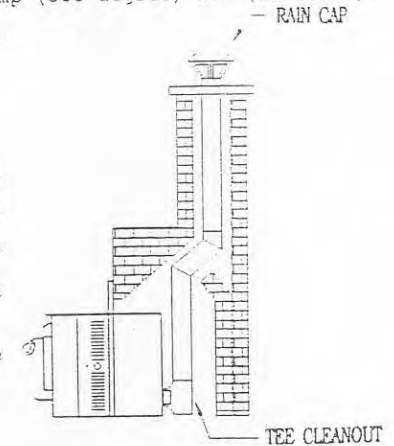

FIGURE 25-A
3. Joints need to be joined tightly with at least (3) sheet metal screws and sealed with high temp (500 degree) RTV (silicone).
5. One method of installation requires that new vent pipe should extend above the top of the old chimney (consult local ordinances for distance) and should be fitted with a raincap to prevent moisture from getting back into the system. A storm collar and flashing should be purchased or fabricated to completely close off the old chimney opening. See Figure 25-A.